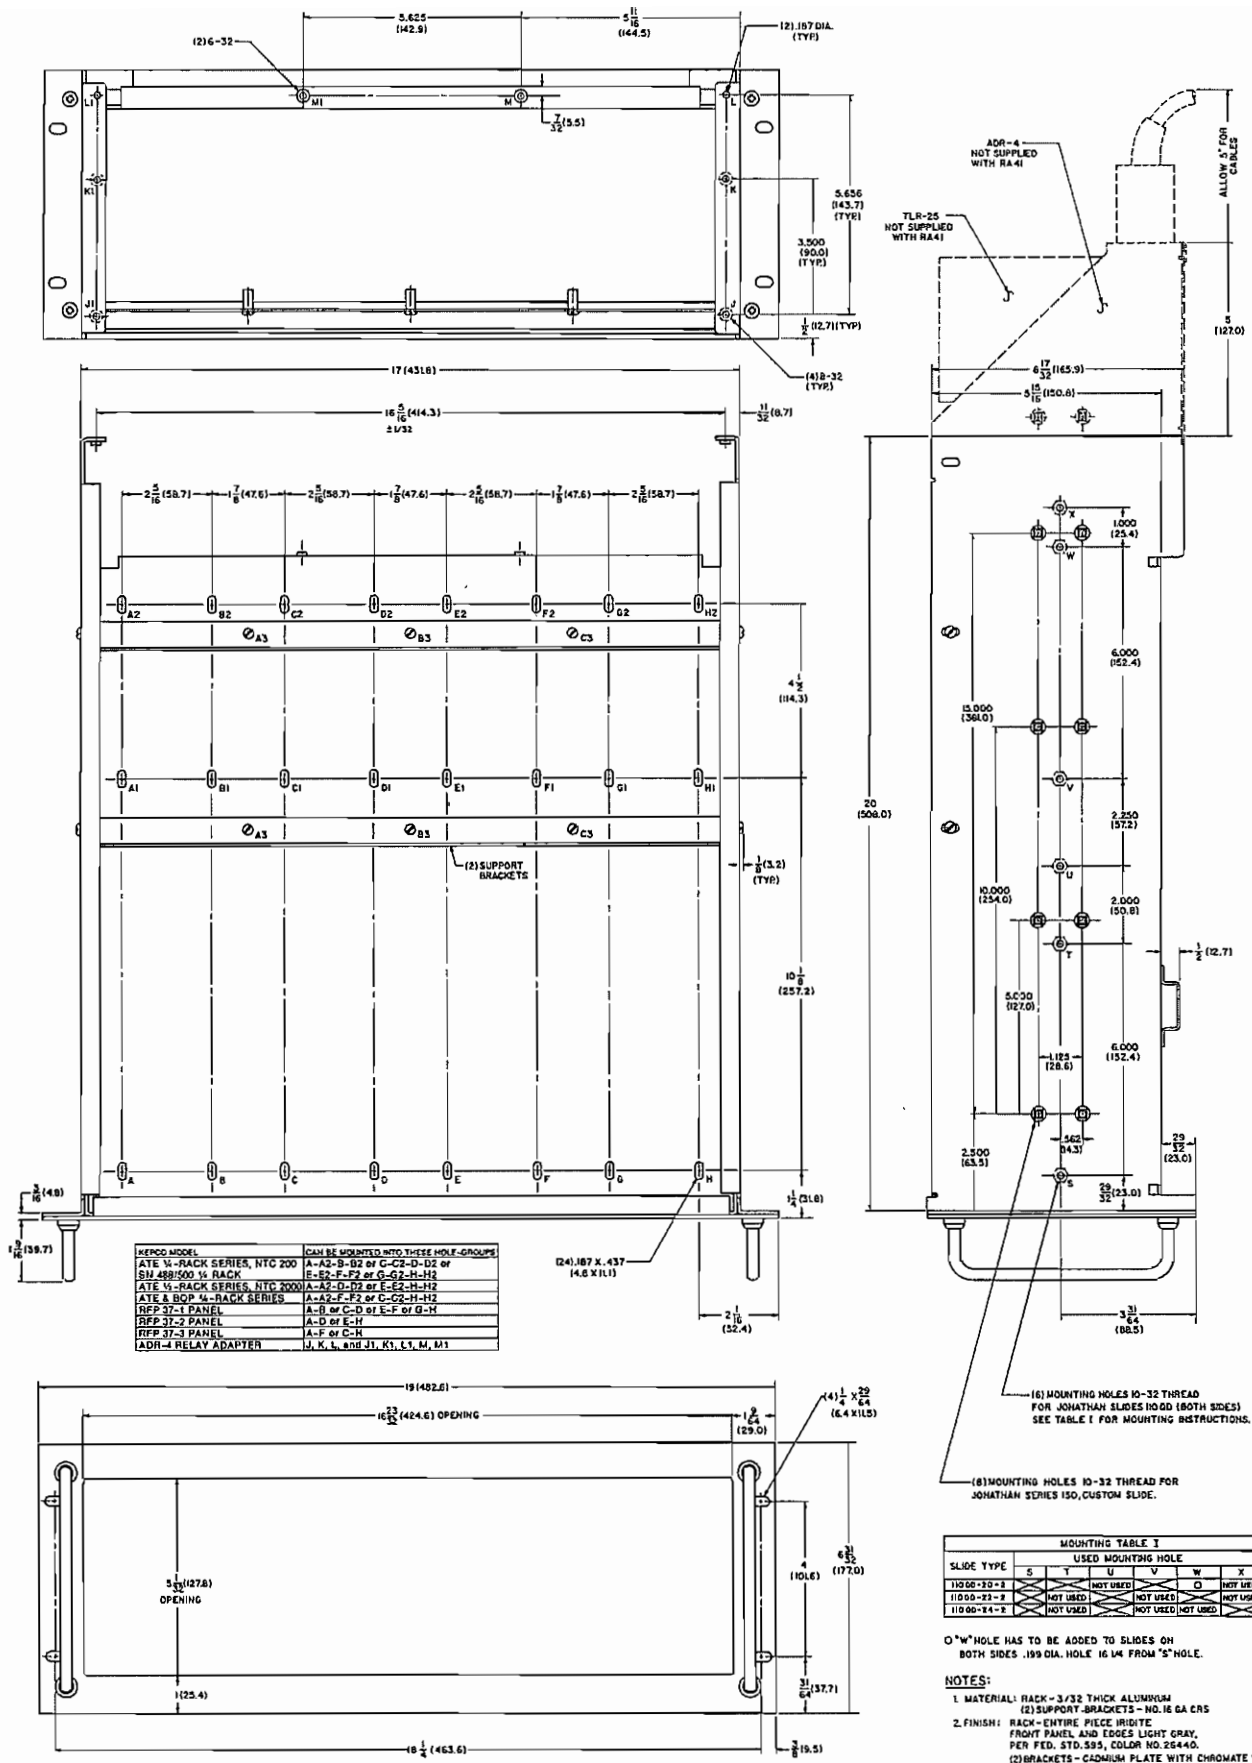

FIG. 3 MECHANICAL OUTLINE DRAWING, KEPCO MODEL RA-41 RACK ADAPTER.
The Kepco Model RA-41 RACK ADAPTER was designed to accommodate the Kepco Model ADR-4 Relay Adapter and accepts Kepco "quarter-rack", "half-rack" and "three-quarter rack" equipment (See Table in Fig. 3. The RA-41 can be mounted, either permanently or by means of chassis slides, into a standard (19") rack. For full enclosure, when mounted with the ADR-4 Relay Adapter, the minimum rack dept must be 30 inches. The RA-41 bottom shelf is predrilled for the mounting hole patterns of the Kepco power supplies to be installed. The mounting is accomplished by using coarse-threaded (8-18) flat-head screws through the bottom shelf of the RA-41 into the nylon expansion bushings on the Kepco equipment to be mounted. The RA-41 Rack Adapter occupies 7 inches of vertical space in the standard 19-inch equipment rack. The rear panels of the mounted power supplies are readily accessible when mounted onto the RA-41 for wiring to and from the equipment. Optional accessory components for the RA-41 Rack Adapter include BLANK FILLER PANELS, designed to occupy unused front panel spaces in the RA-41 Rack Adapter and the Kepco Model ADR-4 Relay Adapter.
The Kepco Model RA-41 Rack Adapter may be rigidly mounted to the equipment rack, or it can be mounted with chassis slides. The front flanges of the RA-41 are drilled for standard (2 1/4") mounting hole dimensions, while the sides are drilled and tapped for "JONATHAN" slides (See FIG. 3).
The bottom shelf of the RA-41 Rack Adapter is predrilled for mounting three-quarter rack, half-rack and quarter-rack models. A variety of mounting configurations are possible, some of which are indicated in FIG's. 2 and 3. Unused front panel spaces in the RA-41 can be covered with (optional) filler panels, listed in the ACCESSORY paragraph. The (optional) ADR-4 Relay Adapter is mounted at the rear of the RA-41 Rack Adapter as indicated in FIG. 3. The mounting holes are indicated in the table of FIG. 3.
- 2) Refer to FIG. 3 "Mechanical Outline Drawing". The "Kepco Model" table in FIG. 3. lists the Kepco equipment which can be installed into the RA-41 and the mounting hole pattern associated with each model.
- 3) Use four (4) of the supplied mounting screws per unit to be installed and fasten unit to the RA-41.
- 4) Install (optional) filler panels and chassis slides as required. The mounting holes for these components are identified in the "Kepco Model" table in FIG. 3.
- 5) Install the (optional) Kepco Model ADR-4 Relay Adapter in the rear of the RA-41 Rack Adapter as indicated in FIG. 3, using the mounting holes listed in the "Kepco Model" table.
- 6) Locations A3, B3 and C3 in the (2) SUPPORT BRACKETS are used for insertion of plastic spacers (6 supplied). These spacers are used to maintain the correct distance between the installed equipment. Depending on the type of equipment mounted, from two to six spacers are used. Example: If four 1/4 rack units are installed, all six spacers are used as shown in FIG. 3, if two 1/2 rack units are mounted, only the B3 spacers are used and so on.
a) KEPCO FILLER PANELS. These panels are mounted into pre-threaded holes (See "Kepeco Model" table in FIG. 3) on the bottom shelf of the RA-41. They are designed to cover unused front panel spaces in the rack adapter: